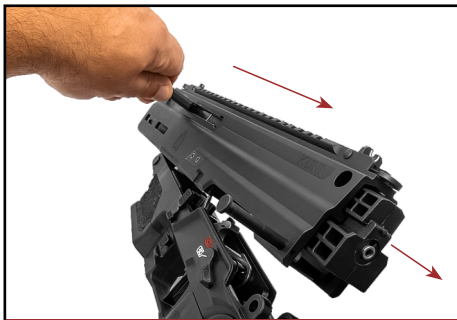

Figure 26-1
- Move the charging handle rearward until you can grab the mainspring and remove it rearward, also from that position pull the bolt out (fig. 26-1).